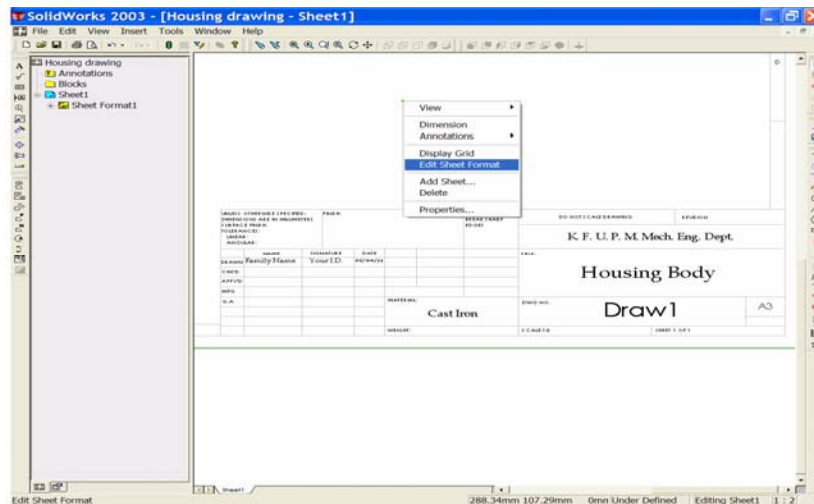
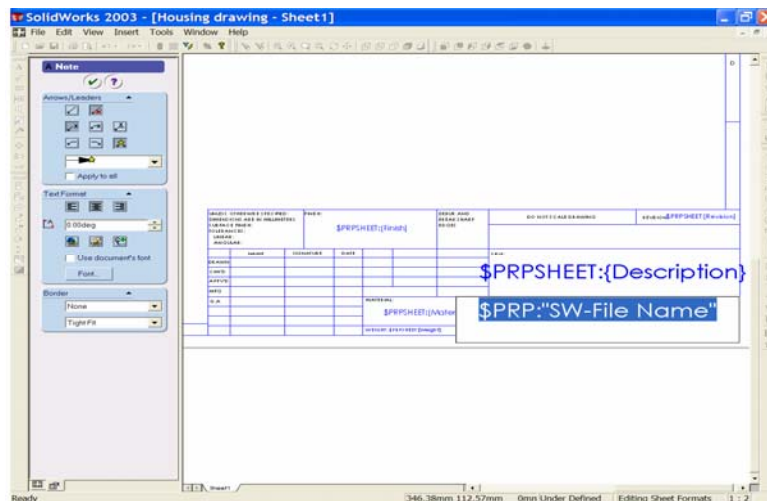

Figure 9
Figure 10
13. To modify the drawing number we must **right click in the drawing area** and select 'Edit Sheet Format' we can now select **the drawing number**. See Figure 9. **Right click on the drawing name** and select 'Edit text'. Choose 'Font' from the Note Property Manager and change the font to match the other notes that you have just added to the sheet. Choose **OK** to update your drawing sheet. See Figure 10.